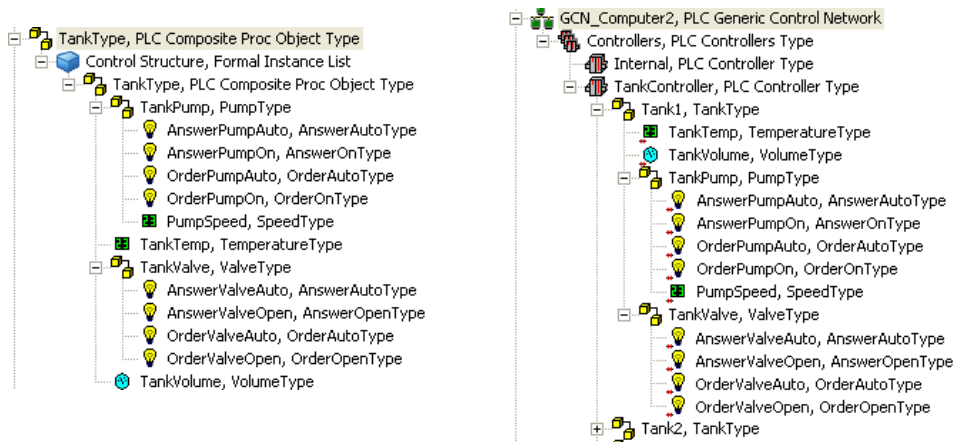

Figure 25. Tank Object Type (Left), and Tank Object (Right)
24. Each composite process object contains the same set of process signals and other process objects as the composite process object type. Expand an object to view them as shown in right side of Figure 25.